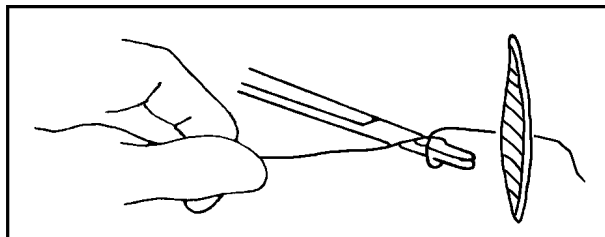

Figure 3-32
- (2) Rotate the needle holder toward the short end. (See Figure 3-32.)